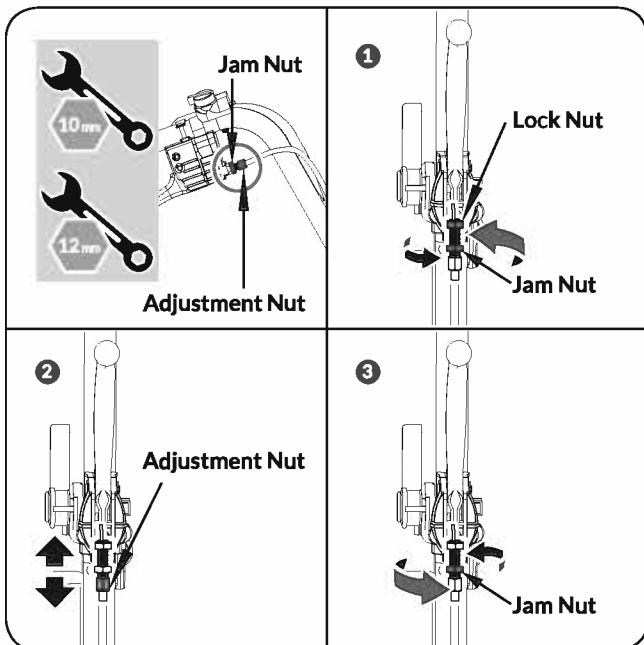

Figure 6b
1. Loosen the jam nut by turning it counter clockwise with 12mm wrench. (see **Figure 6b, Illustration 1**)
2. Tighten or loosen the cable by turning the cable adjustment nut clockwise or counter clockwise with 10mm wrench until you have reached your required tightness. (see **Figure 6b, Illustration 2**)
3. Once tightness is set, return the jam nut against the handle to hold the cable in place. (see **Figure 6b, Illustration 3**)